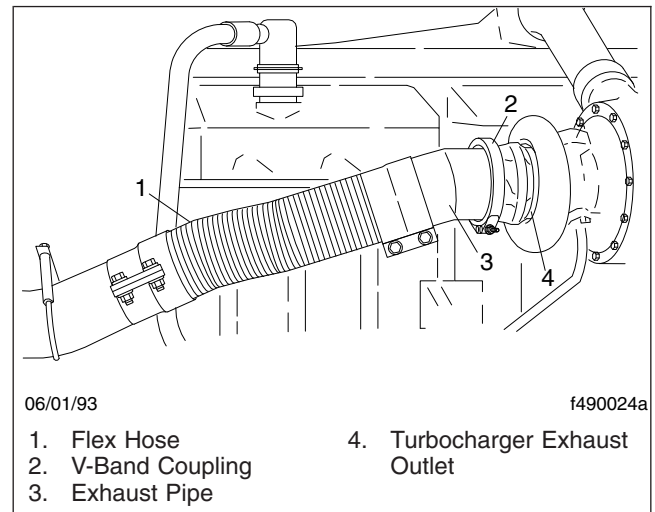

Fig. 1, V-Band Coupling and Flex Hose
2. Inspect the exhaust flex hose (see **Fig. 1**) for leakage, wear, or damage. Replace with new parts if replacement is needed.